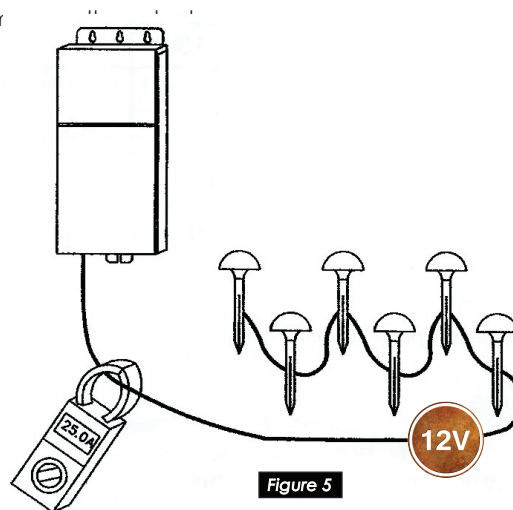

Figure 5
6. **CHECKING OUTPUT CURRENT:** As done for the Input Current, measure the output current as shown in Figure 5. Verify that the Maximum Output Current is within the limits specified in Table 2 for 12V outputs.